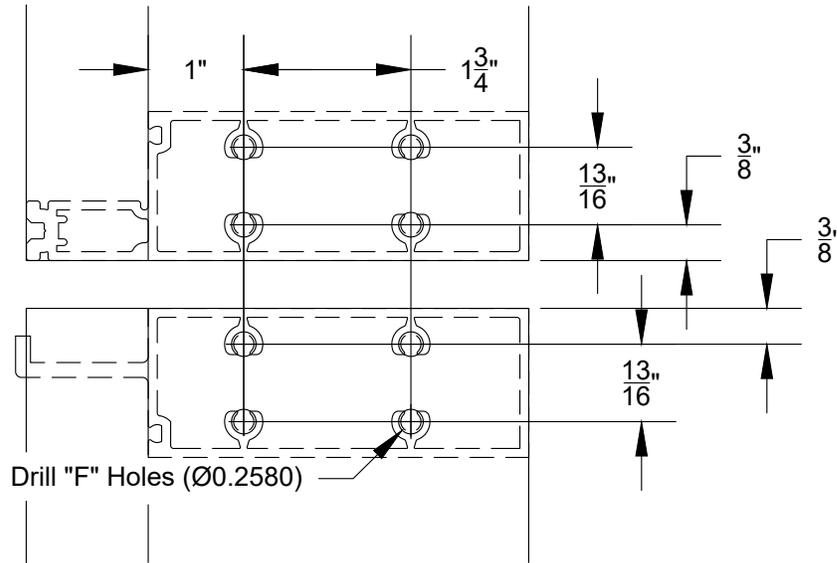
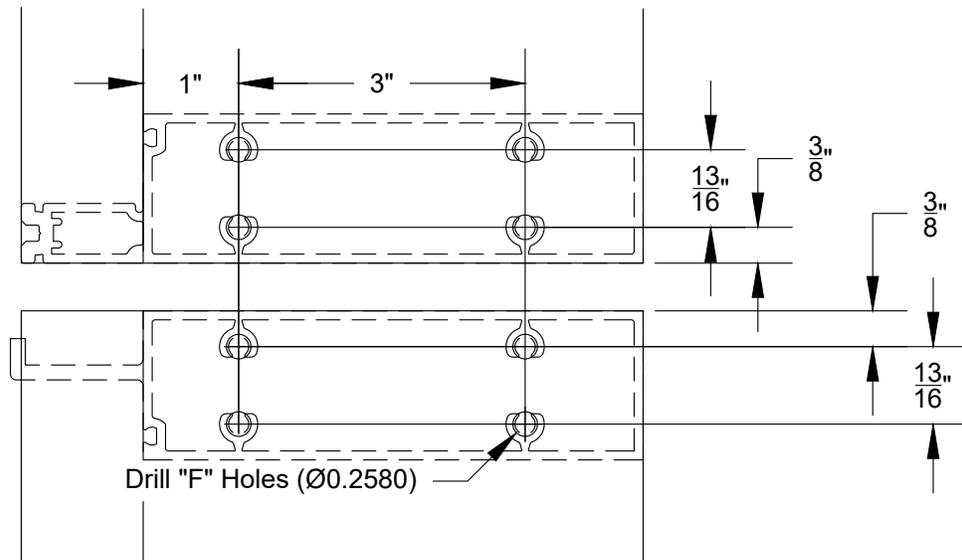

FIGURE 39
FIGURE 40
- 3.24 When using the WW-427 & WW-428, horizontals for the expansion horizontal connection fabricate top and bottom of mullion as shown in FIGURE 39. If using WW-527 & WW-528 fabricate per FIGURE 40.